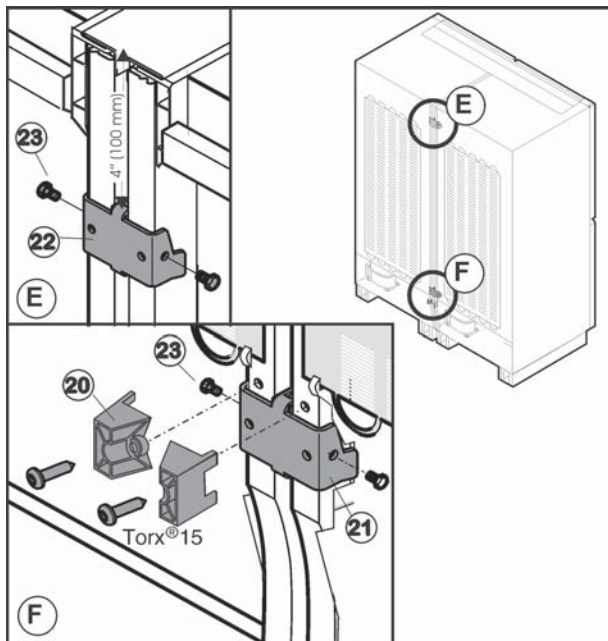

Fig. 47
- Remove the spacers Fig. 47 (20) from the lower reverse side of the appliances.
- Position the upper connecting piece and Fig. 47 (22) screw Fig. 47 (21) on from the side.
- Position upper connecting piece Fig. 47 (22) and screw Fig. 47 (23) on from the side.
- Tighten the screws Fig. 47 (23).